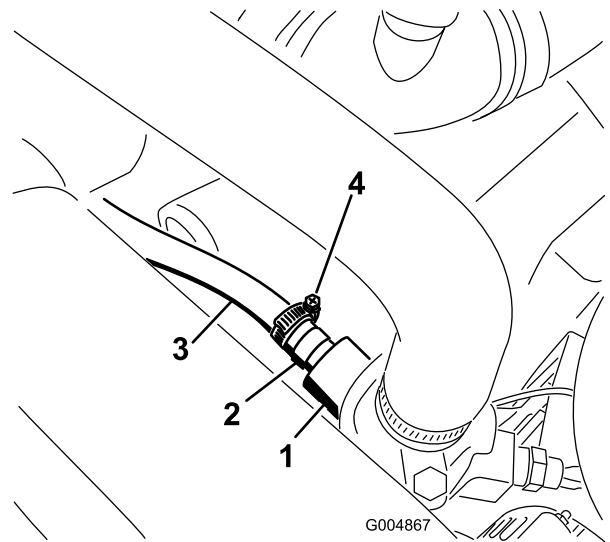

Figure 22
17. Install the hose adapter fitting into the engine thermostat housing (Figure 22).
18. Connect the 22-1/2 inch (57 cm) length of hose to the engine thermostat housing adapter fitting (Figure 22). Secure the hose to the adapter fitting with a hose clamp. Route the hose under the air cleaner as shown in Figure 22. Install a hose clamp onto the hose and connect the hose to the quick coupler (Figure 22). This is the pressure hose.
Note: Route the hoses away from any hot, rotating or sharp objects. Secure the two coupler hoses together with a cable tie as shown in Figure 22.